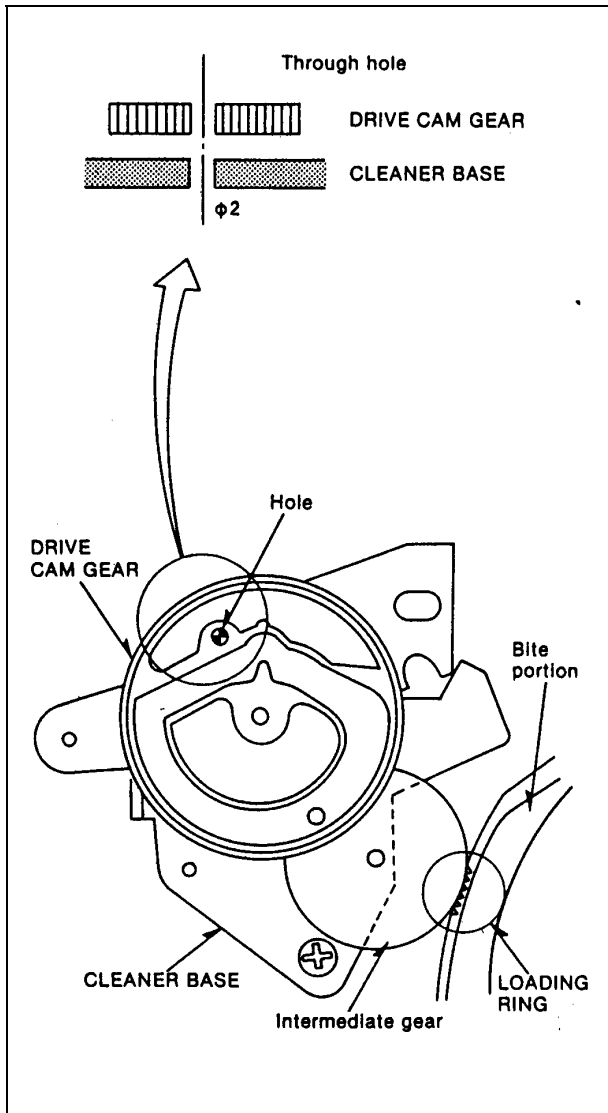

Figure 7-29-3
2. With intermediate gear and ring gear disengaged as shown in figure 7-29-3, rotate drive cam gear so that the hole in drive cam gear match with the hole in cleaner base.